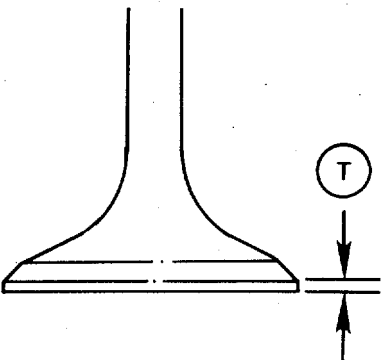

FIGURE 4-13. Measuring Rim Thickness.
c. Measure rim thickness (T) limit as shown in FIGURE 4-13.